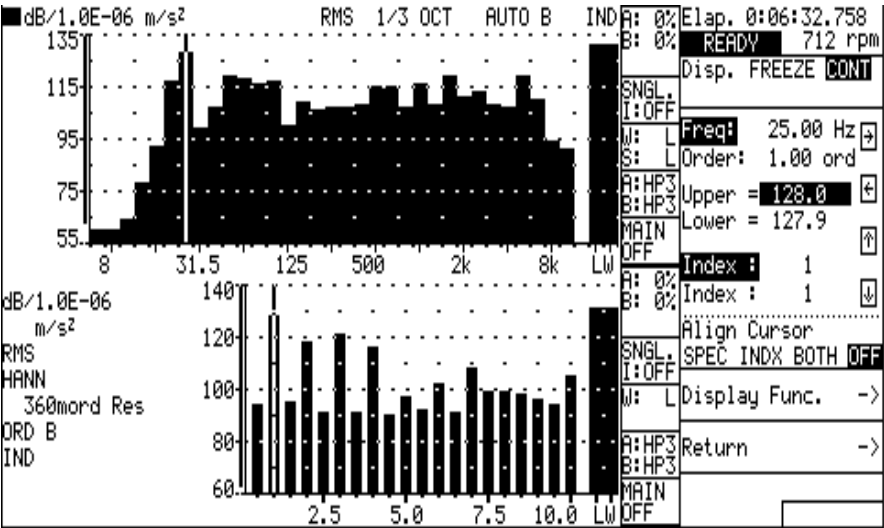

Fig 6 Dual display showing 1/3-octave band autospectrum above and orders below
- Simultaneous displays of an autospectrum and its orders. Fig. 6 shows an example of a $1/3$ -octave band autospectrum above and its orders below.